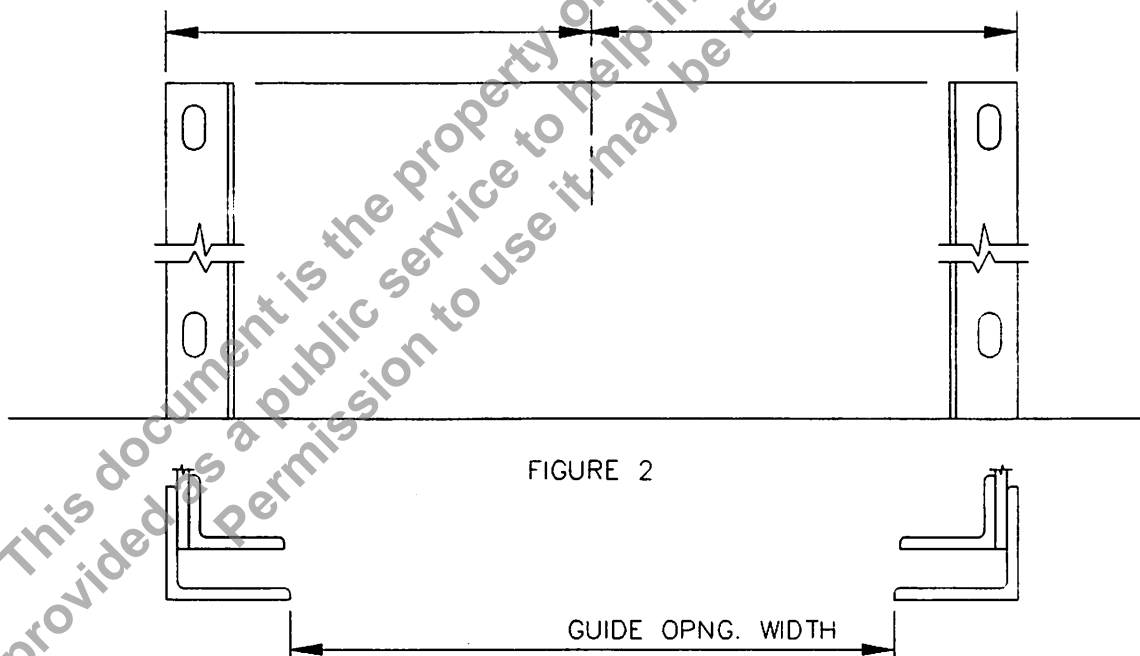

FIGURE 2
1. IN EITHER CASE, LOCATE THE CENTER OF THE OPENING. FROM CENTERLINE LOCATE THE EDGES OF EACH GUIDE BY LAYING OFF A DISTANCE FROM CENTER AS SHOWN IN FIG. 2.